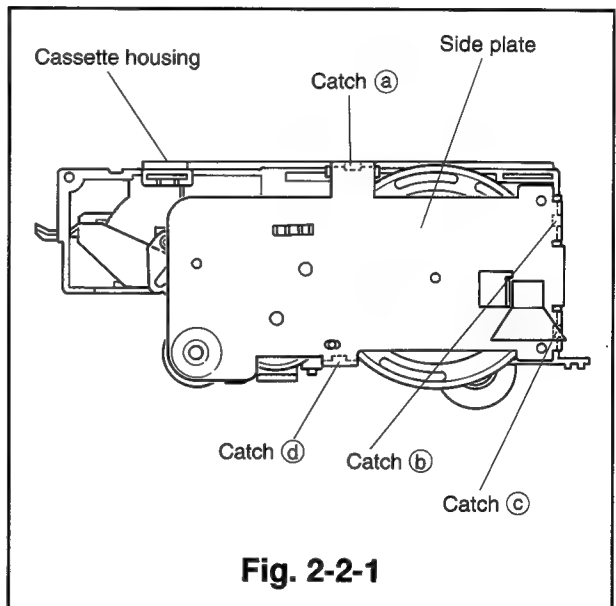
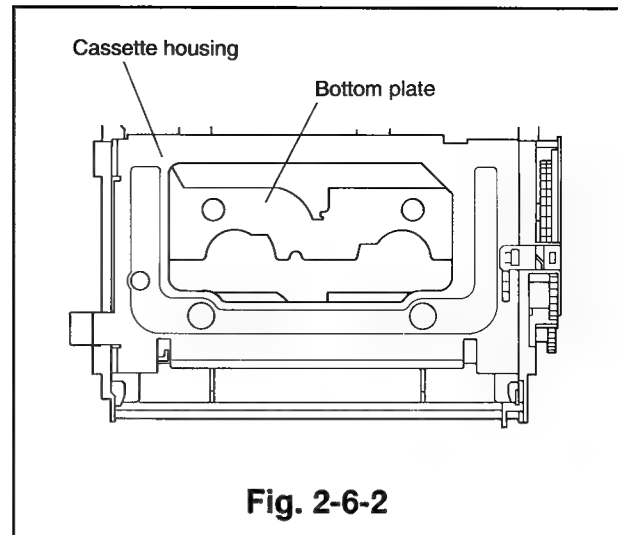
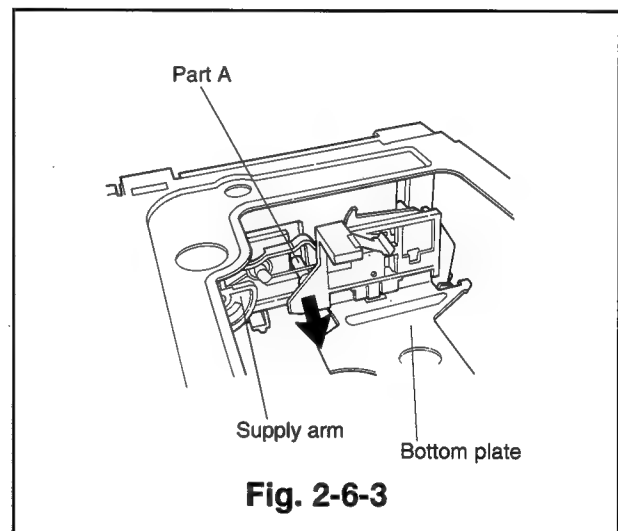

Fig. 2-2-1
Fig. 2-6-2
Fig. 2-6-3
- ① Remove the cassette housing. (Refer to Para. 2-1 for the removal method.)
- ② Unfasten the four catches(a, b, c and d) as shown in Fig. 2-2-1 and remove the side plate.
- ③ Remove the sense gear.
- ④ Pull the lock levers on both the supply and takeup side, shown in Fig. 2-6-1, in the direction shown by the arrow to shift the bottom plate to the position shown in Fig. 2-6-2.
- ⑤ Remove the takeup arm.
- ⑤ Install the takeup arm so that the shaft attached to the bottom plate enters between the takeup arm and takeup spring after the bottom plate has been moved as shown in Fig. 2-6-2.
- ② Remove the side plate. (Refer to Item ② of Para. 2-2 for the removal method.)
- ③ Remove the sense gear. (Refer to Item ③ of Para. 2-2 for the removal method.)
- ⑤ Remove the takeup arm. (Refer to Item ⑤ of Para. 2-2 for the removal method.)
- ⑥ Pull part A, fixed to the supply arm, in the direction shown by the arrow to remove the bottom plate. (Refer to Fig. 2-6-3.
- ③ Insert the bottom plate so that the part A of it enters between the supply arm and the supply spring as shown in Fig. 2-6-3. Then install the bottom plate so that part C of it in the right position as shown in Fig. 2-6-6.
- ④ Follow the installation method in Item ⑤ to ⑧ in Para. 2-2.